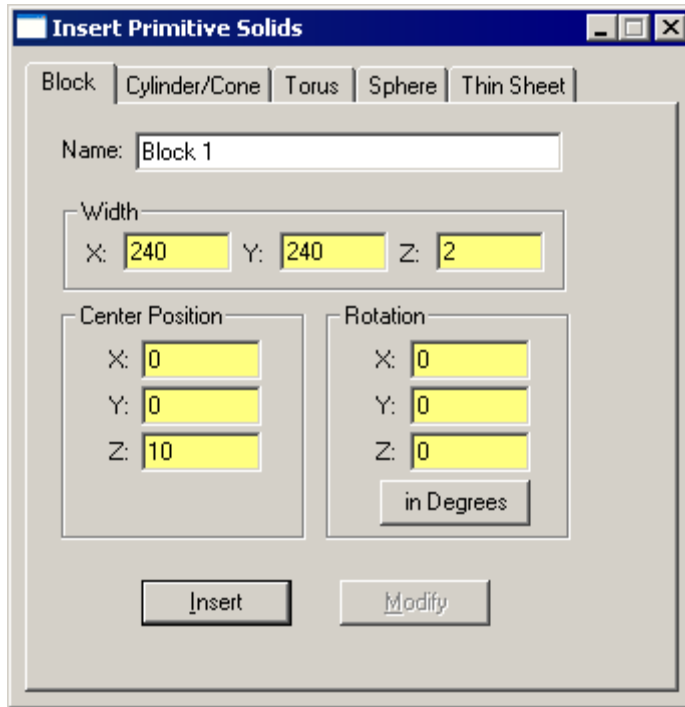

FIGURE 9.9 - Insert a block into a TracePro model as a substrate for the Fresnel lens.
- In TracePro, using the **Geometry|Primitive Solid** dialog box, insert a block with dimensions as shown in Figure 9.9.